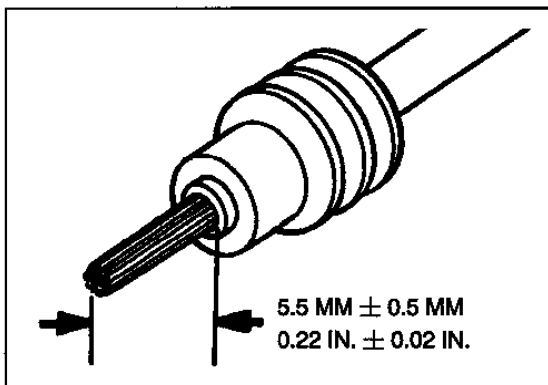

Figure 45 Strip Approximately .22 Inch Insulation From Wire
4. Slip new cable seal onto wire in direction shown. Strip .22 in. ± 0.02 in. (5.5 mm ± 0.5 mm) insulation from wire. Position cable seal as shown in Figure 45 .